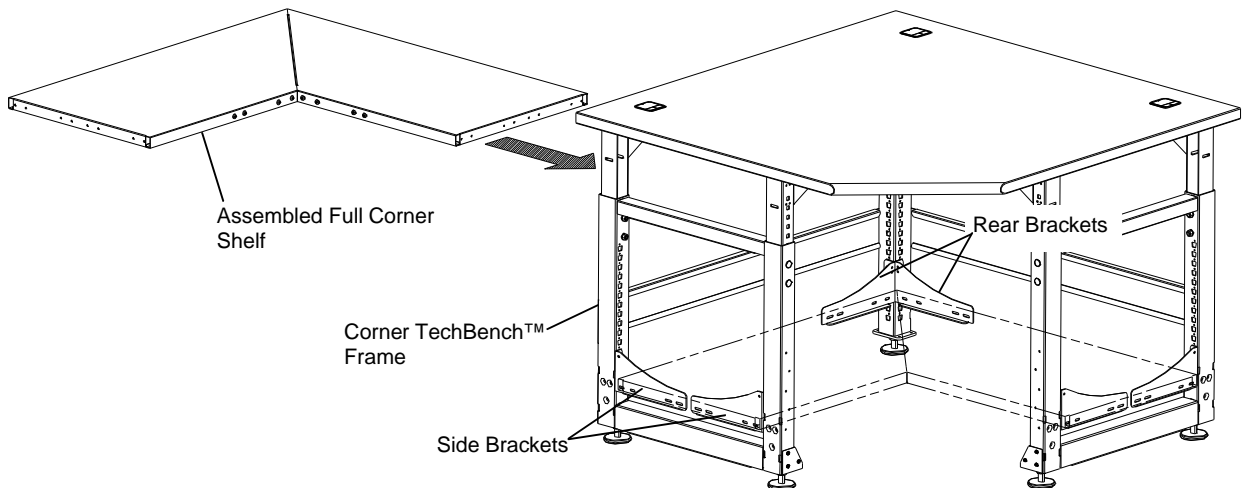

Figure 7
9. Turn the assembled Full Corner Shelf over, pass it thru the frame, and place it on the Rear and Side Brackets as shown in figure 7.